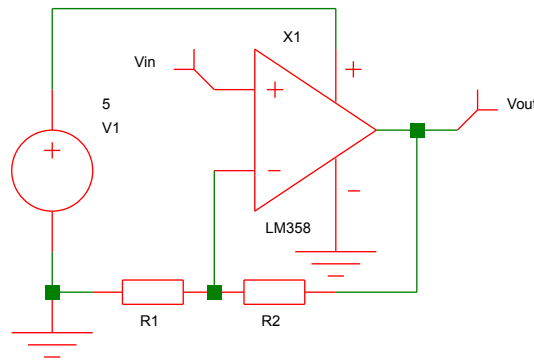

Figure 10: Op-amp as non-inverting amplifier.
**Task:** calculate  $V_{out}$  based on  $V_{in}$  in the circuit shown in figure 10. Show that for  $R_2 = 0$  you obtain  $V_{out} = V_{in}$ .